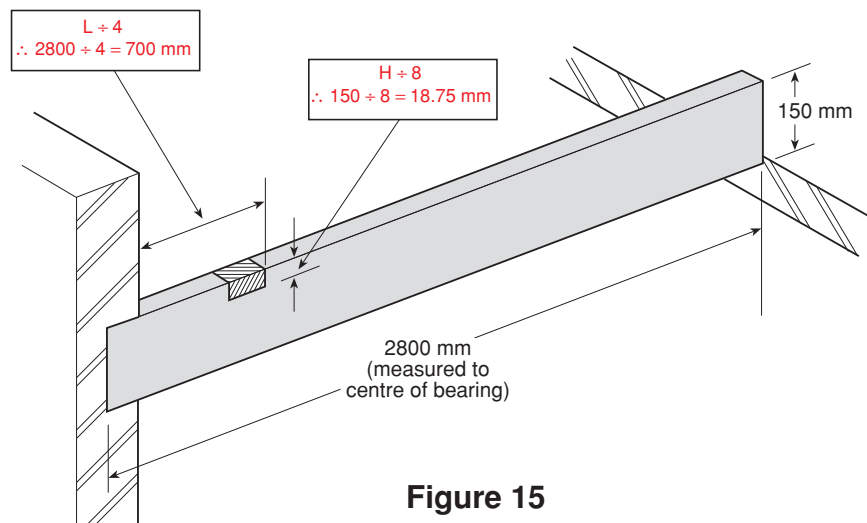

Figure 15
- (35) With reference to Figure 15, indicate in the space provided the maximum permissible depth which can be cut into the floor joist. Also indicate the maximum permissible distance at which the notch can be cut from the supporting wall. (Page 121.)